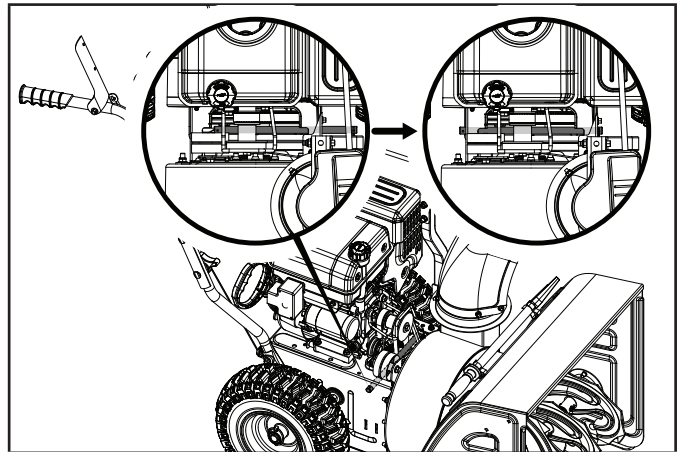

Figure 31
11. Reassemble the support rod by pushing back into place and ensure that it is properly engaged into the friction disc assembly and replace the washer and clip (Fig. 31).